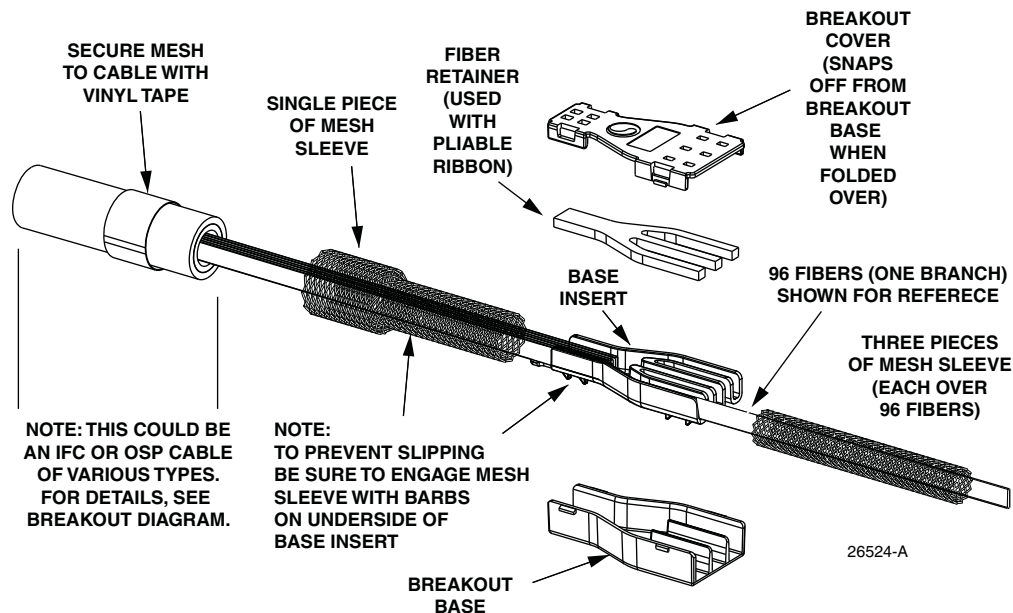

Figure 3. Breakout Exploded View
All cable breakouts for the OMX HD ribbon application are done using a CommScope breakout kit with the same basic design shown in the exploded view in Figure 3.
5. Install a single mesh tube over each 96 fiber bundle as shown in Figure 3 and slide the mesh tubing over the appropriate branch output of the base insert. Make sure the mesh tubing engages the barbs on the underside of the base insert. Refer to the appropriate cable configuration section in this manual for further details.
- Install fiber retainer (if using pliable ribbon) into base insert, place base insert into the breakout base, and install the breakout cover, as shown in Figure 3 on Page 4.